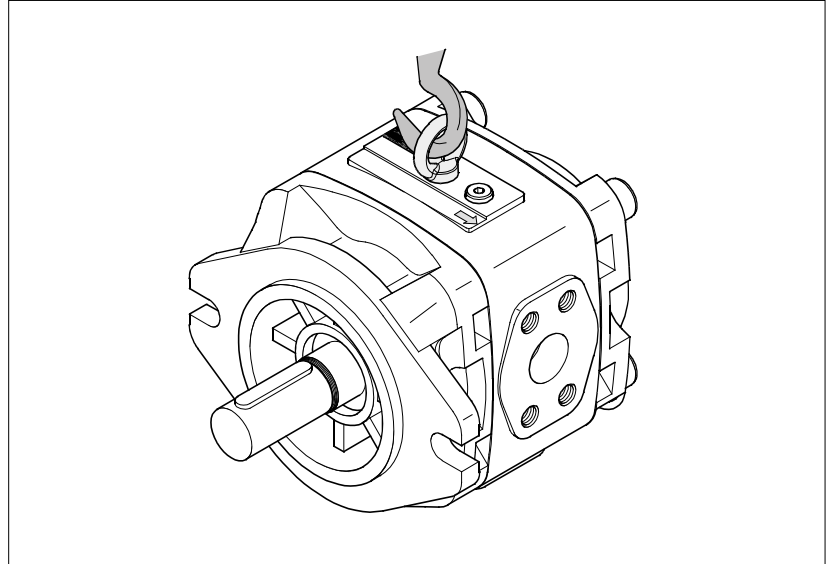

Fig. 4: Mounting using the ring bolt
- ▶ Lift the internal gear pump as shown in fig. 4 using the screwed-in ring bolt without any risk of damage.